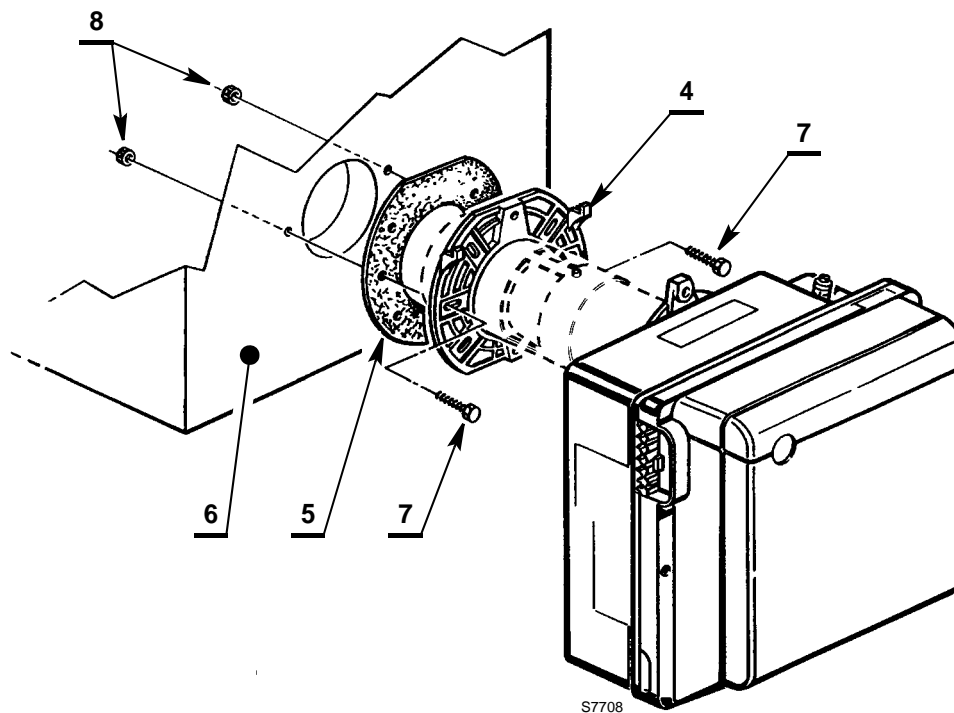

Fig. 8
- Fix the flange 4) (Fig. 8) to the boiler door 6) using screws 7) and (if necessary) the nuts 8) interposing the insulating gasket 5).